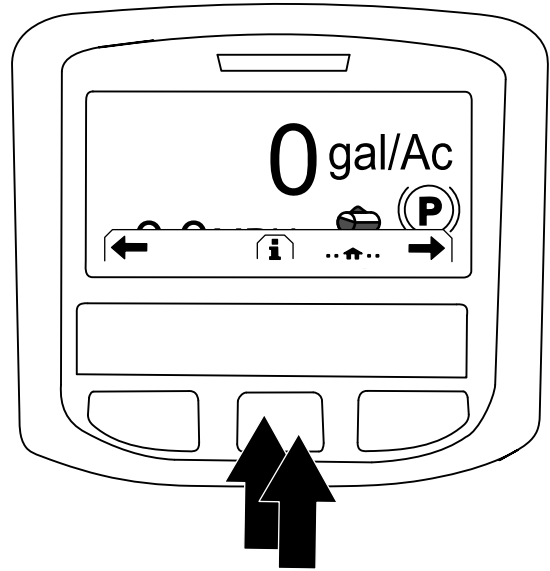

Figure 263
2. At the Home screen, press the center button on the InfoCenter to access the navigation screen (Figure 263).